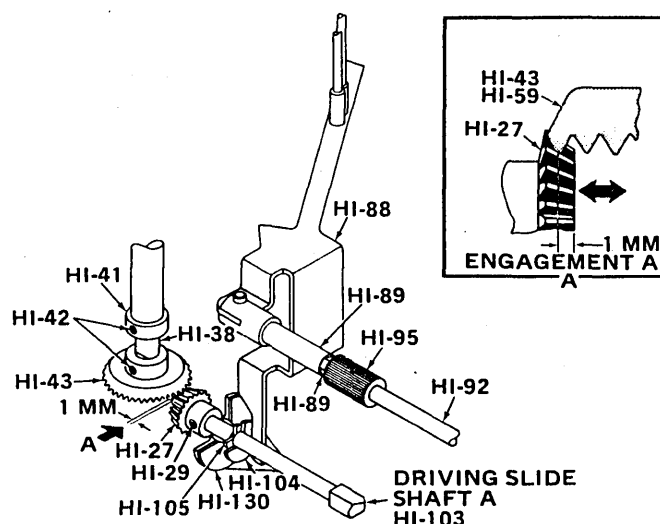
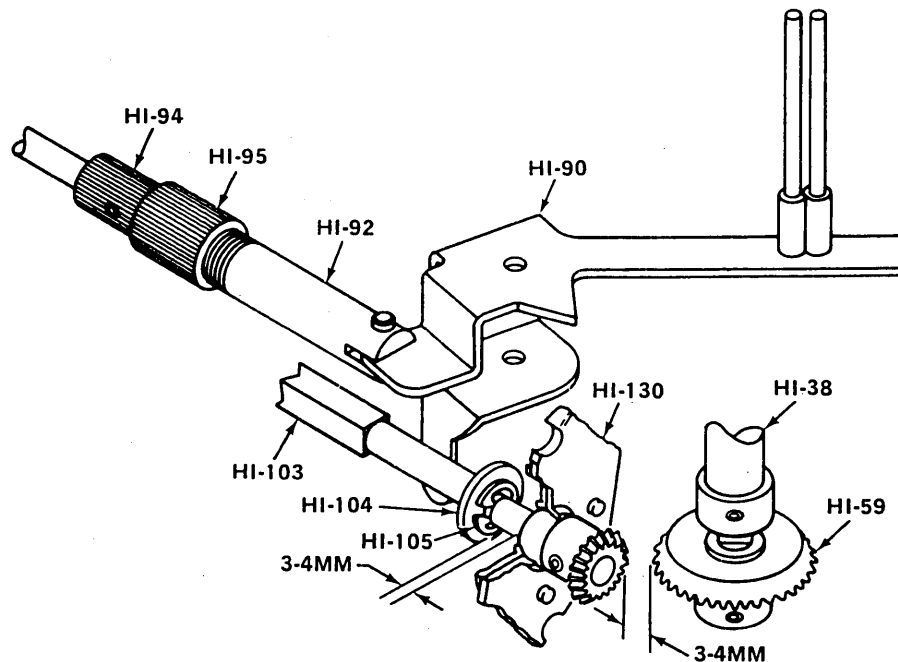
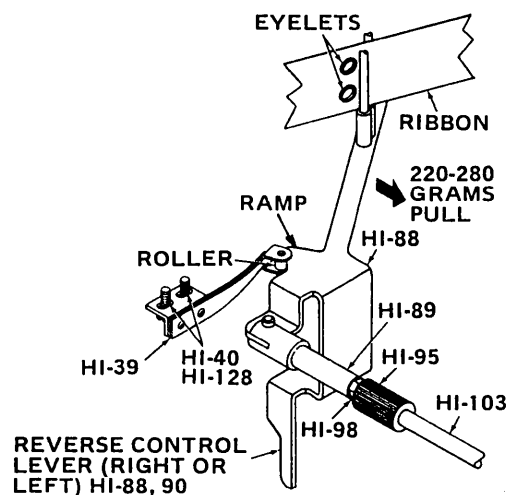

Figure 5-14. RIBBON FEED MECHANISM (REAR OF PRINTER, LEFT SIDE)
Figure 5-16. DRIVING SLIDE SHAFT A - ADJUSTMENT
Figure 5-18. RIBBON REVERSE TIMING
Torque transmission route for left and right ribbon feed mechanism is determined by position of driving slide shaft A (HI-103)(Fig. 5-16) controlled with control spring (HI-39)(Fig. 5-18) and left and right reverse control lever (Fig. 5-18/90,88).
A. BEVEL GEARS (LEFT AND RIGHT)(HI-27, 43) AND (HI-27, 59)(REFER TO FIGURE 5-14)
- 2. Adjust bevel gear (HI-27)(left side) with respect to bevel gear (HI-43) by loosening and tightening allen-head screws (HI-29) to obtain engagement A of approximately one millimeter (0.039-in.). See Fig. 5-14, and View A.
When engagement A (Figure 5-14) has been properly adjusted between gears (HI-27) with respect to bevel gears (HI-43, 59), adjust bevel gears (HI-43, 59) alternately to obtain correct backlash operation of gears in the following manner:
1. When engagement A and B of bevel gears has been made (Figure 5-14, 5-15), one snap ring (HI-105) always contacts support bushing (HI-130); the distance between other snap ring (HI-105) and the support bushing (HI-130) on shaft (HI-103) is 3 to 4 millimeters (0.12-0.16-in.). (See Figure 5-16). Note that distance between bevel gear (HI-59) and bevel gear (HI-27) is also 3-4 mm.
2. When bushings and holders (HI-133, 130) on left and right side of printer are installed, the driving slide shaft A (HI-103) should move freely and travel an overall distance of 3.0 to 4.0 millimeters (0.12-0.16-in.) when engaged alternately in either direction with bevel gears (HI-27, 43) or (HI-27, 59). (See Fig. 5-16)
E. CONTROL SPRING (HI-39) - RIBBON REVERSE TIMING (FIG. 5-18)
1. When reverse control lever (HI-88) turns left by moving ribbon reversing shaft (HI-92) to left, and if Engagement A (Fig. 5-14) between bevel gear (HI-27) and bevel gear left (HI-43) is decreased to approximately 1.0 mm (0.039-in.), adjust position of control spring (HI-39) by loosening screws (HI-40) and flatwashers (HI-123) to just pass roller mounted on control spring (HI-39), (located underneath left ribbon spool shaft HI-38) over top of ramp of reverse control lever (left)(HI-88). Note, that both ribbon spools will rotate freely when driving slide shaft A (HI-103) is in neutral position (top of ramp).
2. When ribbon of spool (empty condition) containing eyelets (or small plate) is blocked by ribbon guides (part of HI-88, 90), a pull of 220-280 grams (7.7 oz - 9.8 oz) is exerted on the reverse control levers (either left or right), which reverses the ribbon movement (See Figure 5-18).
Both bevel gear (HI-27) and bevel gear (right and left)(HI-42, 59) should be timed so that they engage together after roller, mounted on control spring, passes over top of ramp of reverse control lever (HI-88). (Fig. 5-18)